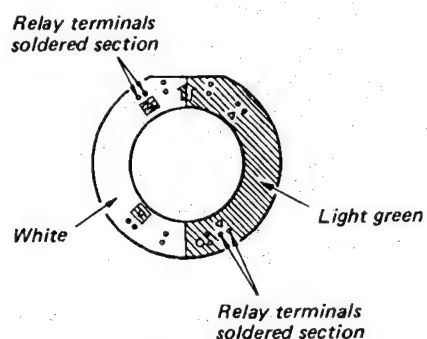

Fig. 1-3-12 Head relay P.C. board
- Unsolder the relay terminals (at the delta marks, 2 pairs — in total 4 locations) on the head relay P.C. board. The solder will be removed easily using a desoldering wire (Fig. 1-3-12/1-3-13).
- Remove two screws (A) and remove the upper cylinder assembly.
- Align phases of the white part of Head relay P.C. board and Rotary transformer (A) P.C. board and then mount the upper cylinder.